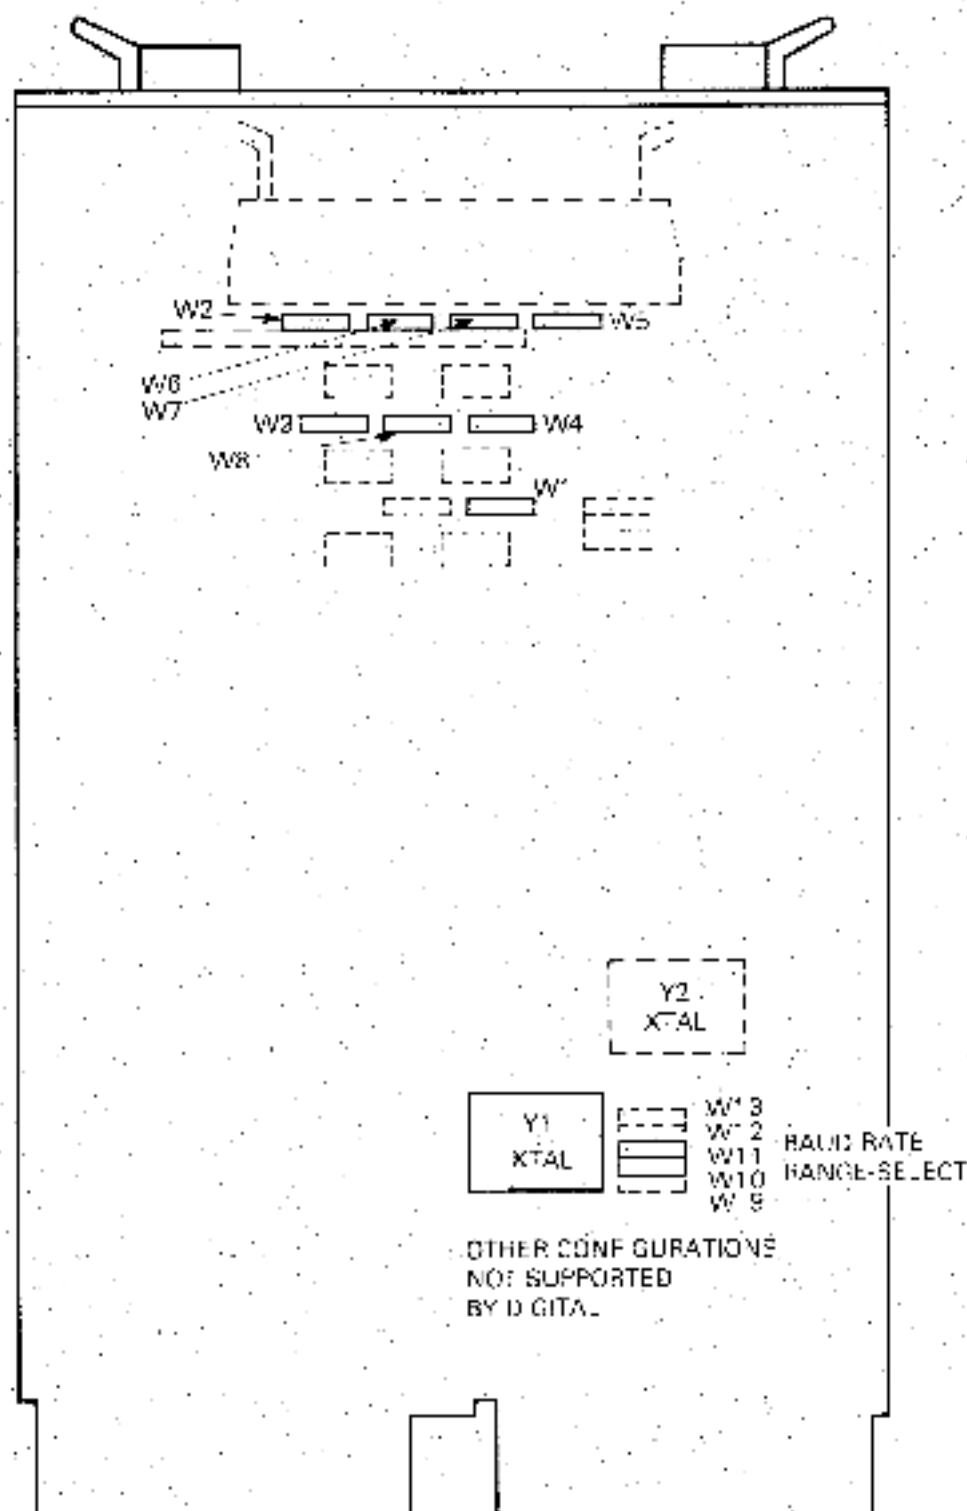

Figure 2-1 Jumper Location on M3106 Module
There are eight jumpers used for modem control (Figure 2-1). The jumpers labelled W1 to W4 connect the Data Terminal Ready (DTR) circuit to the Request To Send (RTS) circuit. This allows the DZQ11 to assert both DTR and RTS when using modems that need control of RTS. These jumpers must be installed for running the cable and external diagnostic programs. The four jumpers W5 to W8 connect the Forced Busy (FB) circuits to the RTS circuits. When these jumpers are installed, asserting an RTS circuit also places an ON or BUSY level on the corresponding FB circuit. Jumpers W5 to W8 are normally cut out unless they are needed by the modems used. Table 2-2 shows the jumper line assignments.